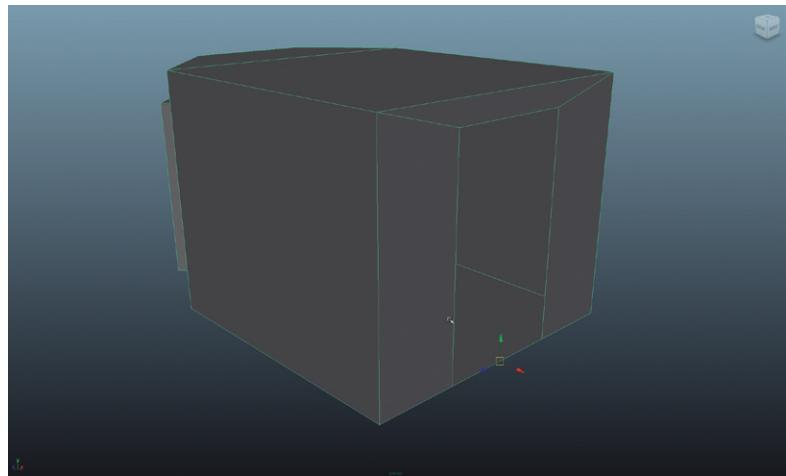

FIG 3.30 Preparing to place the room by getting the manipulator into a good place.
Step 45: Further prepare by maneuvering the room object's manipulator to the middle front edge of the doorway (Fig. 3.30). Do this in steps: first snap to vertex and move the manipulator only in Y to snap to the bottom of the room. Then, snap to vertex and move only in X to snap to the front of the room.